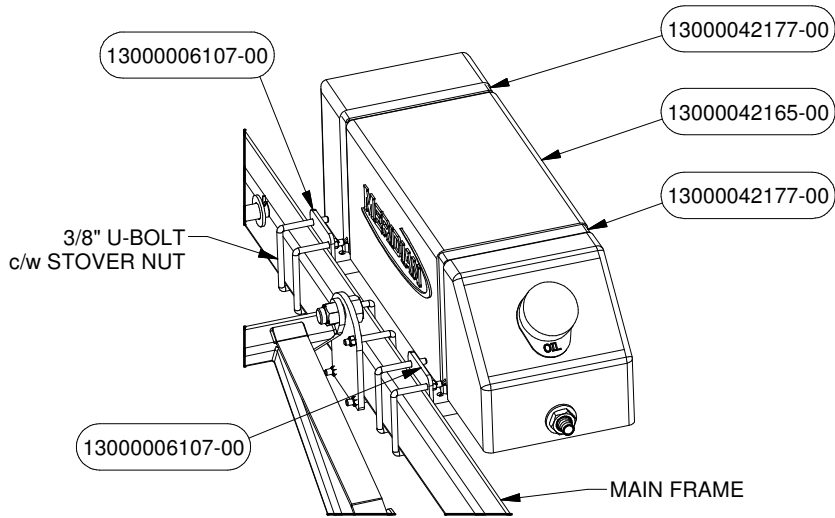

FIGURE 56
12. Attach the Oil Tank Brackets PN# 6107 to the Main Frame using U-Bolts c/w Stover Nuts. Attach the Oil Tank PN# 42165 to the brackets using the Clamps PN# 42177 c/w Stover Nuts as shown in Figure 56.